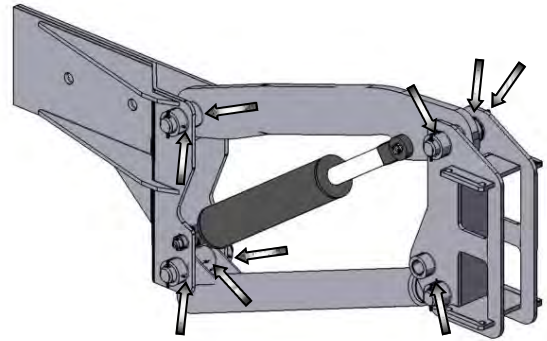

FIG 3 GREASE LOCATION 1
Grease pivot point of boom arms. Make sure to grease the shaft both when you have the arms closed and open. This will make sure that the grease is more thoroughly applied. See Figure 3.
1. Grease pivot locations - Figure 3 & 4